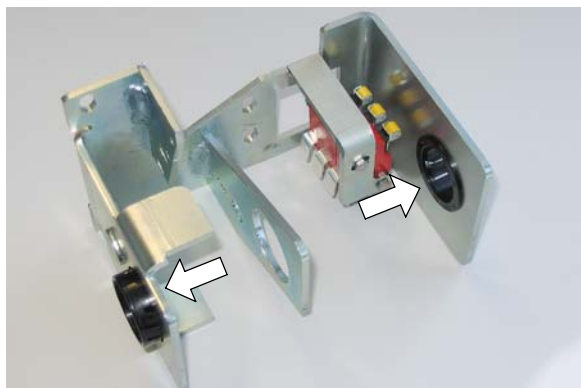

Fig. 7
8. Install (2) new bushings to the bracket as shown (Figure 7).